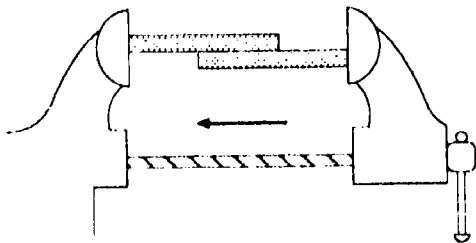

Figure 7. Test 1: place the boards in a vise as shown here.
- a. Place a fastened pair of boards in a vise (see Figure 7).